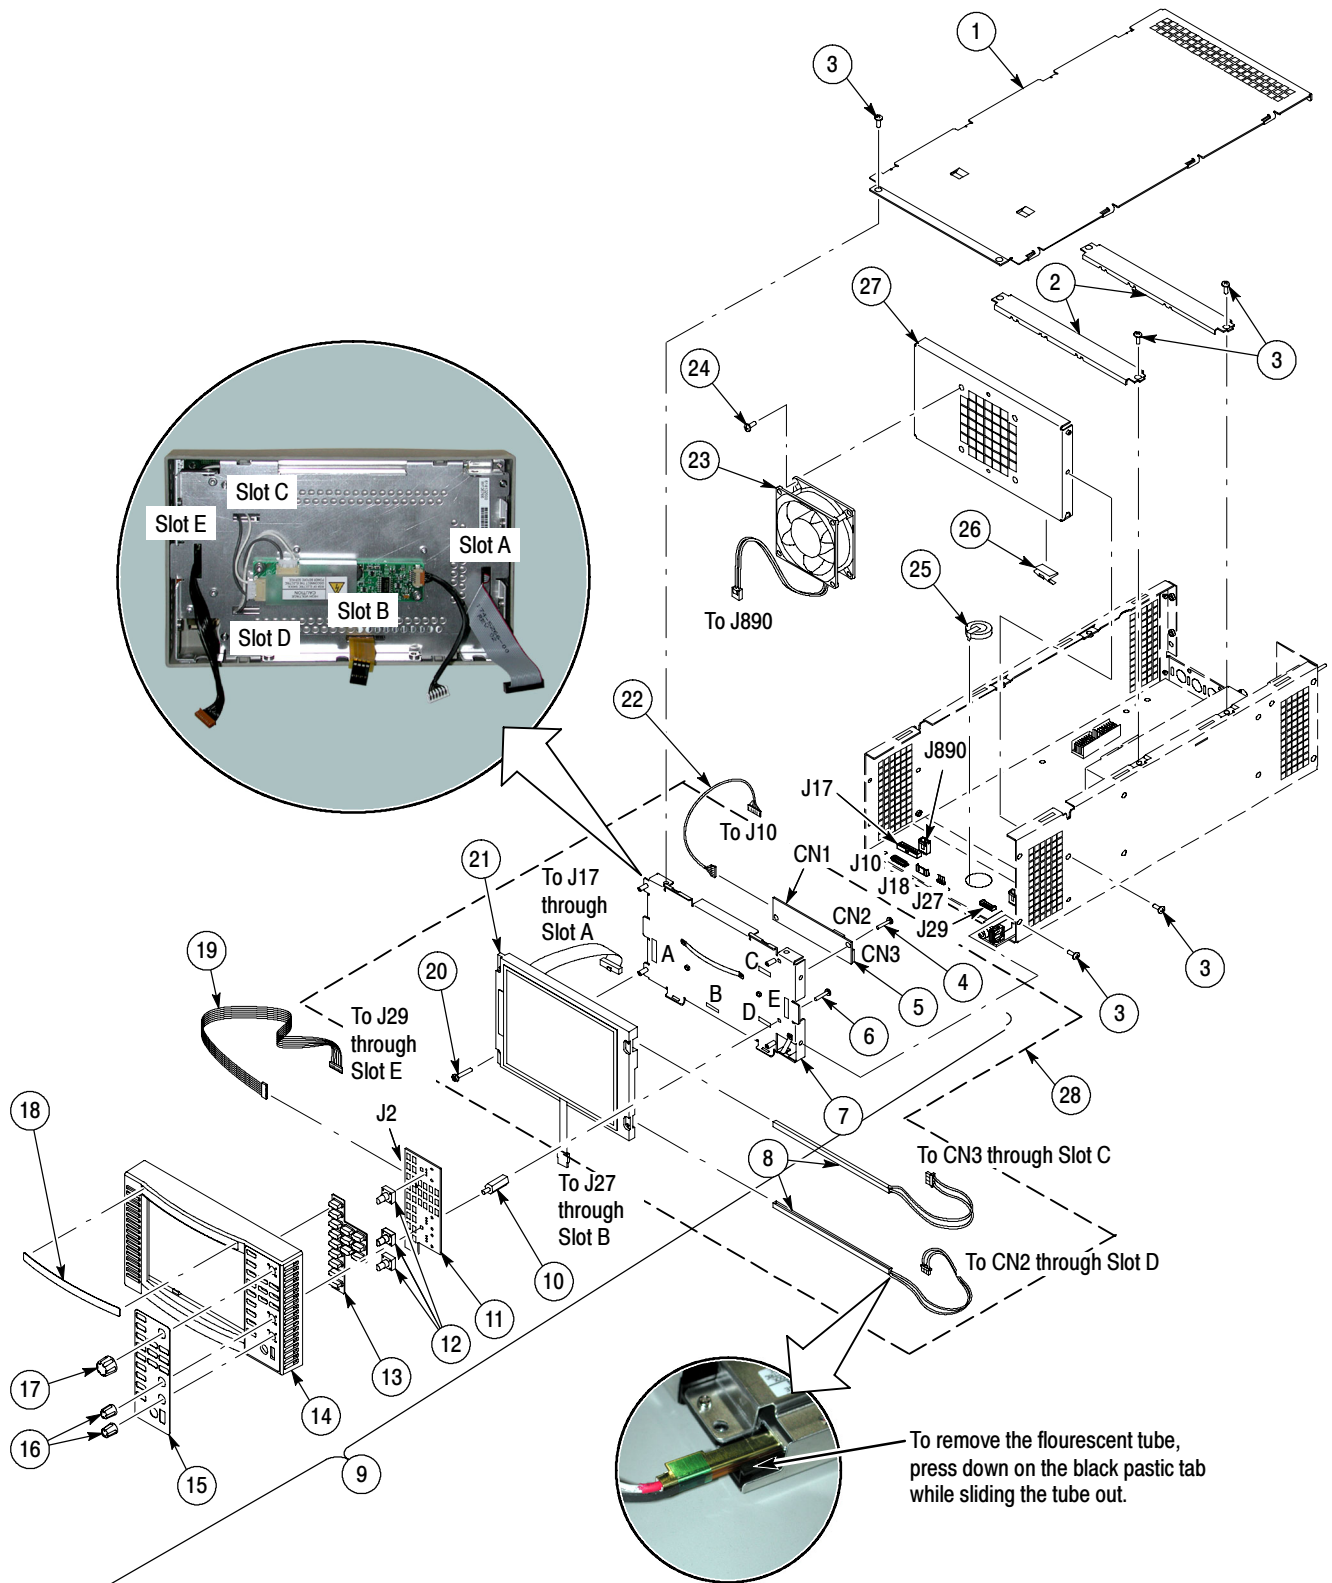

Figure 5-2: Chassis components
**Replaceable cables, connectors and other mechanical parts (Figure 5-2)**